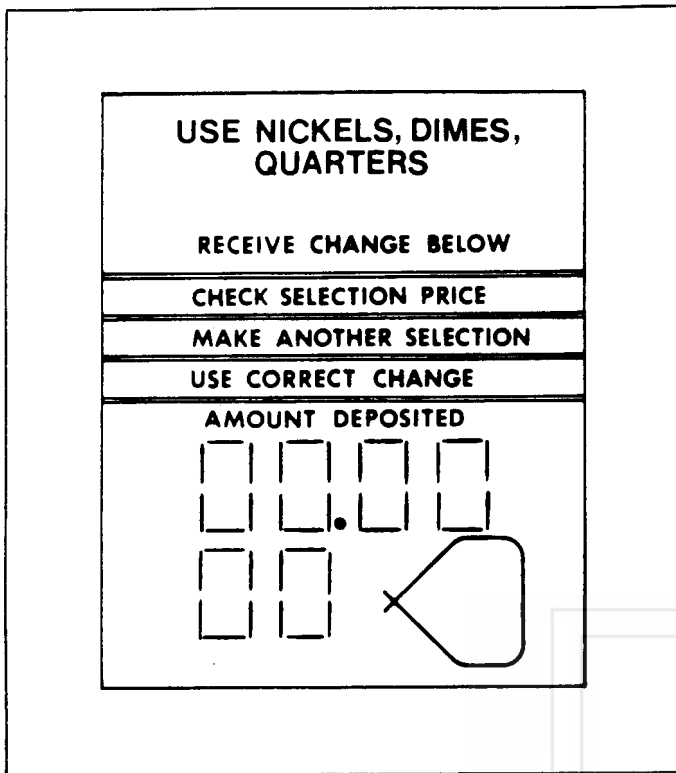

Figure 17.
- B. Press button 11 on the selection panel and the display will show "00.00" (Figure 17). This is the price display and can be incremented up by pressing button 11 and down by pressing button 12. Increments are 5¢. **CAUTION:** Any selection programmed at "00.00" will free vend.